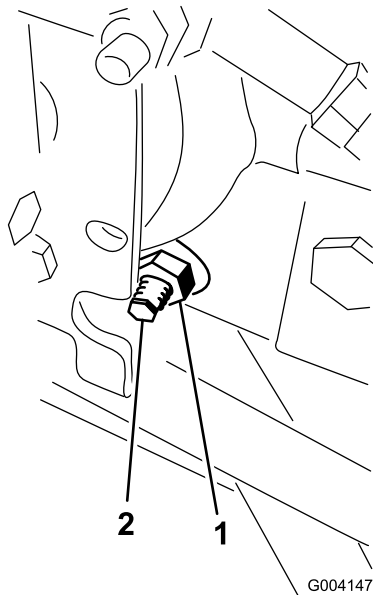

Figure 57
3. On the right side of the hydrostat, loosen the locknut on the traction adjustment cam (Figure 57).